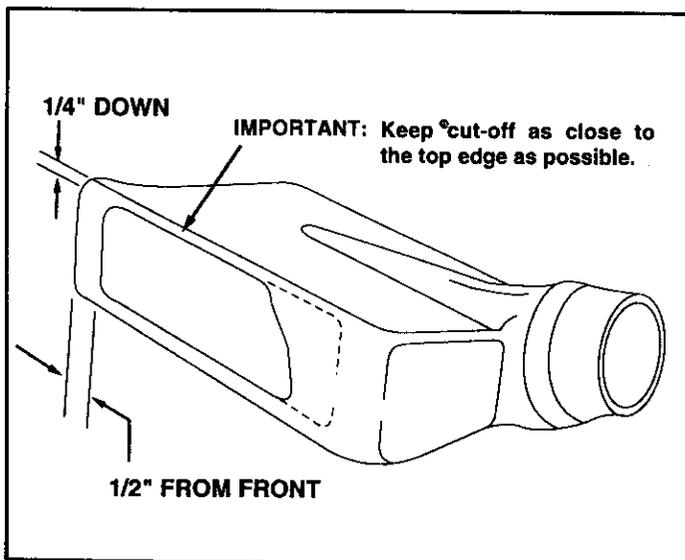

FIGURE 28
- Tape the template to the face of the adapter, locating template approximately 1/2" from front and 1/4" down from top of adapter. Keep as close to top as possible. See figure 28. Mark outline of template on face of adapter using white crayon, nail or scribe. Drill a starting hole inside the outline, then use a saber saw or key hole saw to cut out the opening. See figure 28.